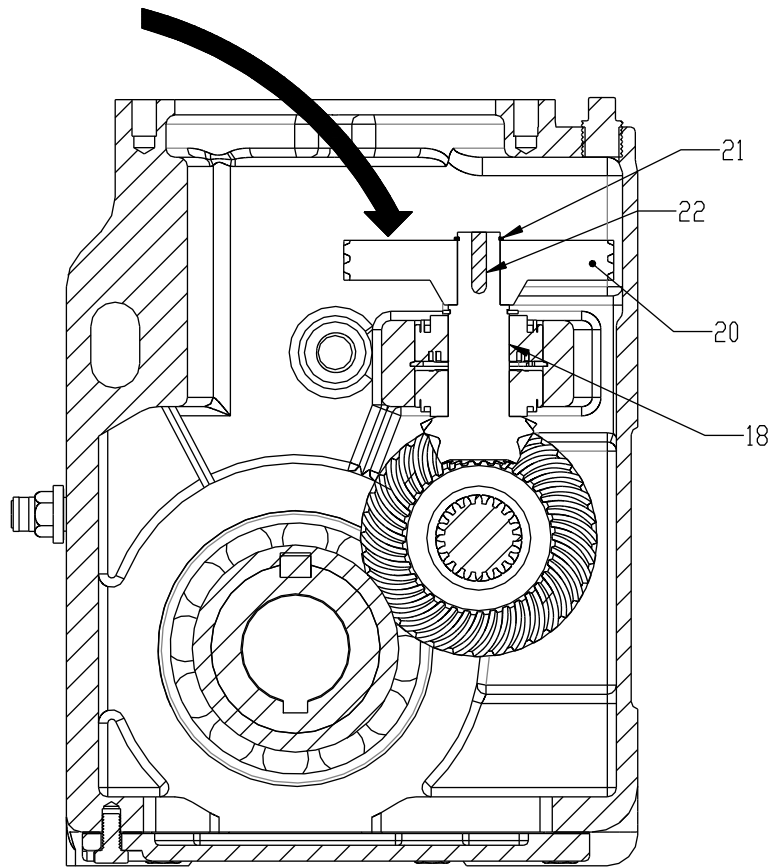

Figure 2
Position the gearhead on the assembly bench (Figure 2).
1. Position the gearhead on the assembly bench as previously shown in Figure 2.
1. Position the reducer assembly on the assembly bench as previously shown in Figure 2.